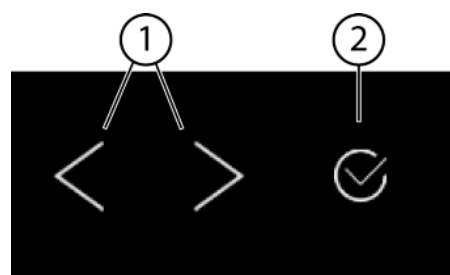
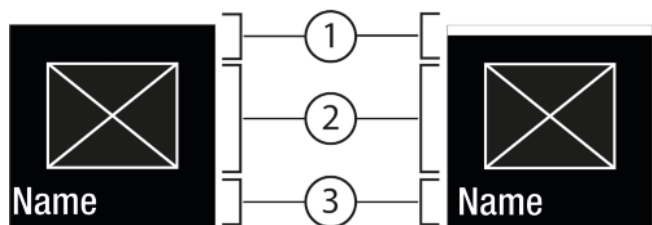
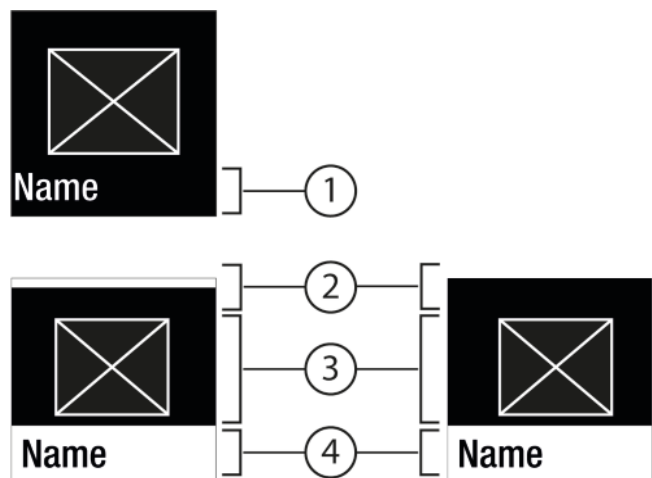

Fig. 5
Fig. 6
Fig. 7
## Navigation arrow left/right Fig. 5 (1):
## Confirm Fig. 5 (2):
- Press the left/right Fig. 5 (1) arrow to navigate.
- Press Confirm Fig. 5 (2) to activate Fig. 6 (1) / deactivate Fig. 6 (1) the function.
- Press Confirm Fig. 5 (2) to open the submenu Fig. 7 (4).
- Set a new value: Press Confirm Fig. 5 (2) to select an active value Fig. 6 (1).
- Back to the menu: Press Confirm Fig. 5 (2) to select the active value Fig. 6 (2).
- Press the navigation arrows Fig. 5 (1) until the appears.
- Press Confirm Fig. 5 (2).
- ▶ Press the navigation arrows *Fig. 5 (1)* until the function appears.
- ▶ Press Confirm *Fig. 5 (2)*.
- ▶ Press the navigation arrows *Fig. 5 (1)* to select the setting value.
- ▷ Status: On *Fig. 6 (1)* appears briefly in the submenu *Fig. 7 (4)*.
- ▶ Press the navigation arrows *Fig. 5 (1)* until Settings  appears.